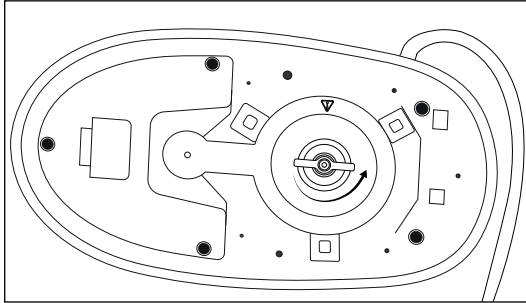
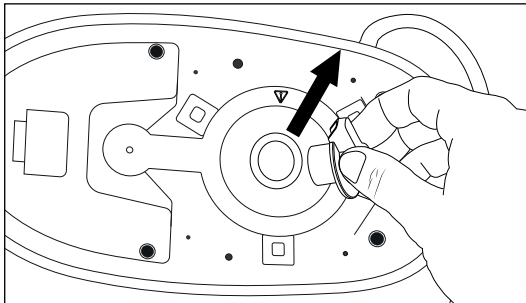

Fig. 11
Fig. 12
- 3) Unscrew the steam chamber closure 7 anticlockwise and pull the steam chamber closure 7 out of the opening (see fig. 11 and fig. 12).